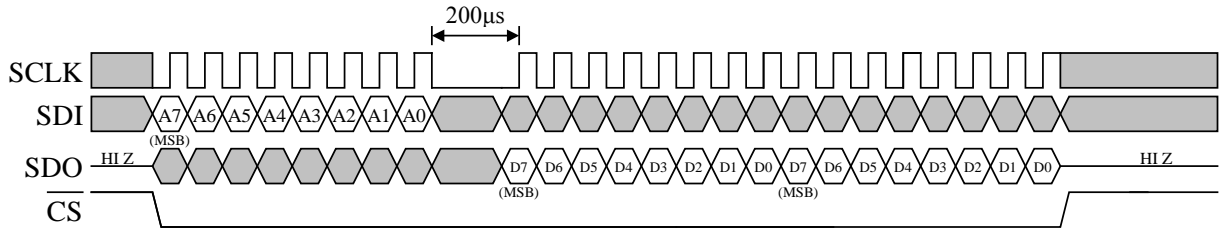

Figure 5 Timing Diagram for an A/D conversion and 12-Bit data read operation.
The KXSD9 has an onboard 12-bit ADC that can sample, convert and read back sensor data at any time. Transmission of an 8-bit axis-conversion command (see Table 10) begins on the falling edge of nCS. The MSB of this command indicates if you are writing to (0) or reading from (1) the register. After the eight clock cycles used to send the command, the host must hold SCLK low for at least 200µs during the A/D conversion time. Note that all returned data is sent MSB first. Once the data is received, nCS must be returned high for at least 130nS before the next data request. Figure 5 on the following page shows the timing and diagram for the accelerometer 12-bit ADC read operation.